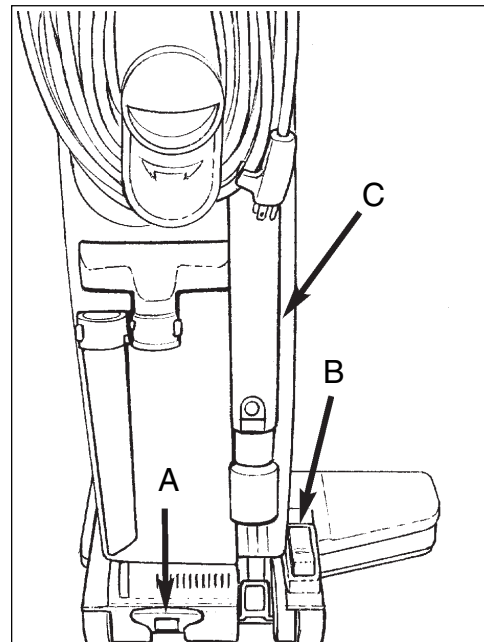

Figure 8
**The Handle Release Pedal** (See figure 8, item A)
**The Height Adjustment** (See figure 8, item B)
**The Wand** (See figure 8, item C)
4. Press the handle release pedal (see figure 8, item A).